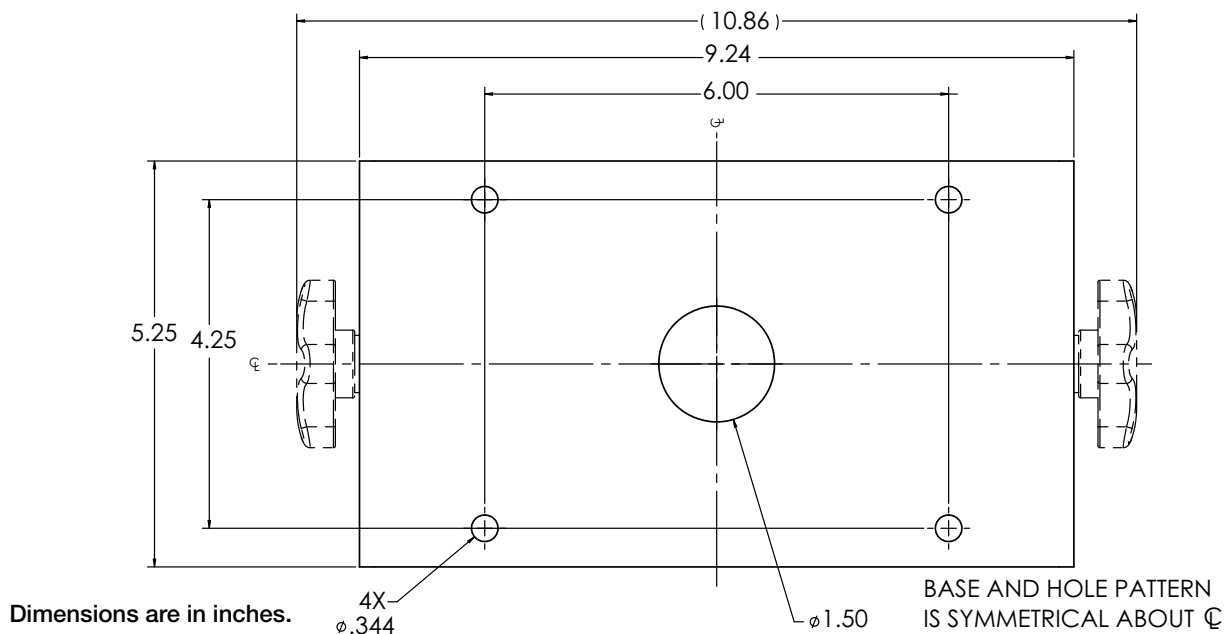

Figure 2-5. Universal Surface Mount Stand Dimensions
1. Using the tilt stand as a template, mark the screw locations. See Figure 2-5 for dimensions.
*This illustration is not to scale. It is for illustration purposes only. Use the dimensions in Figure 2-5 to mark the holes for the universal mount, or use the bottom of the tilt stand as a template. Do NOT use Figure 2-5 as a template.*